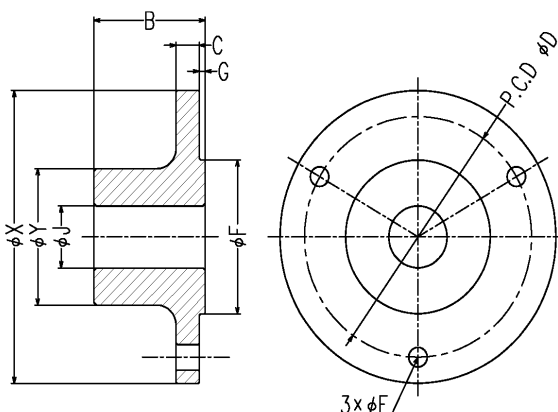

Fig. 2 DOJ Series Flange Type
- Fit tolerance for F dimension in Fig. 2 is H8.